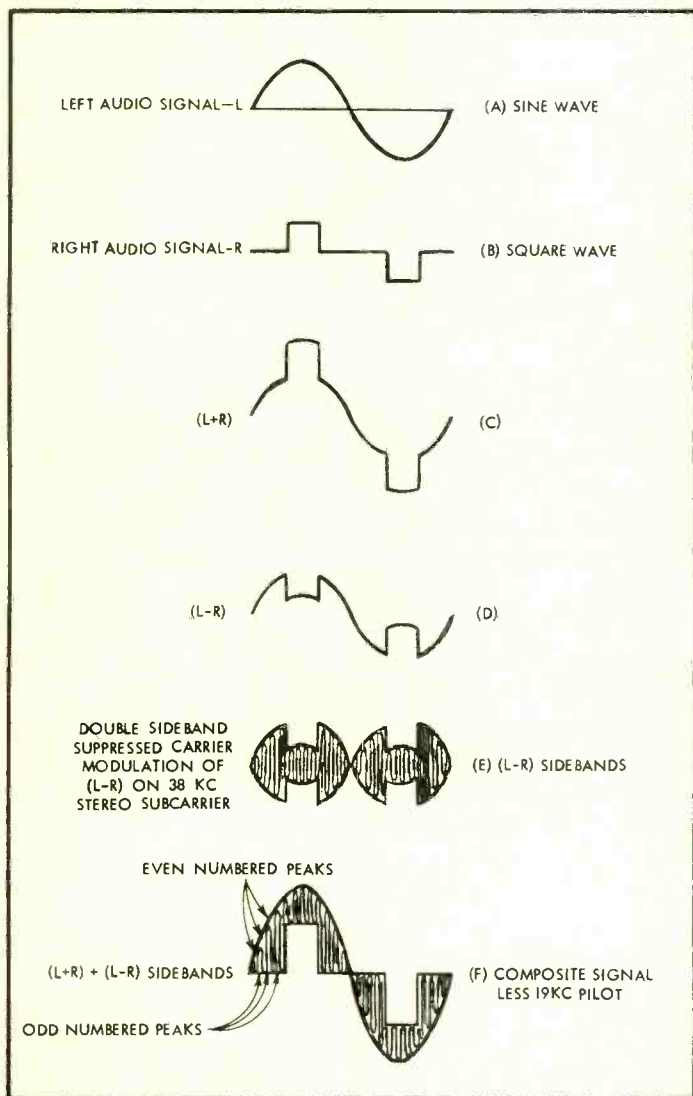

Fig. 3. Composition of composite stereo signal. For simplicity, the 19,000-cps pilot signal is omitted.
The various waveforms that contribute to the formation of the composite signal are shown in Fig. 3. As the  $L$  and  $R$  signals are entirely independent, each may be chosen arbitrarily. For convenience the  $L$  signal will be represented by a sine wave, and the  $R$  signal by a rectangular waveform as shown at (A) and (B). The sum signal ( $L+R$ ) is shown at (C), and the difference signal ( $L-R$ ) at (D). Double-sideband suppressed-carrier amplitude modulation of
The mathematical expression for the composite waveform at (F) in Fig. 3 is: